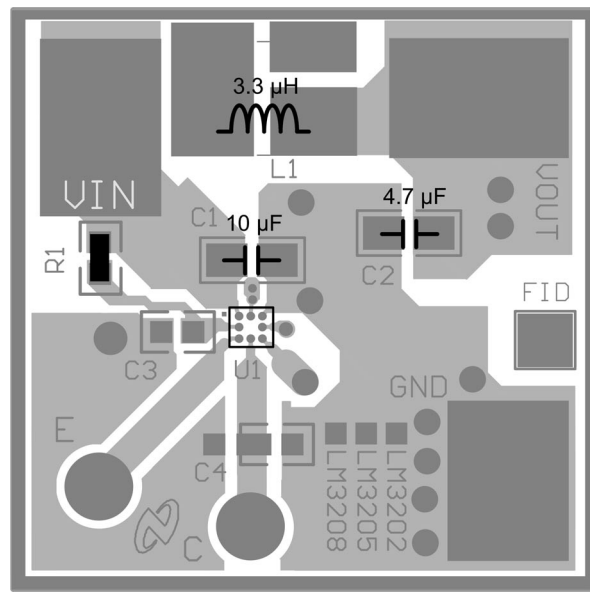

FIGURE 5. Evaluation Board Layout for microSMD
**Note:** The evaluation board shown in Figure 5 and Figure 6 for the LM3205TL/ LM3205SD were designed with these considerations, and it shows good performance. However some aspects have not been optimized because of limitations due to evaluation-specific requirements. The board can be used as a reference, but it is not the best. Please refer questions to a National representative.